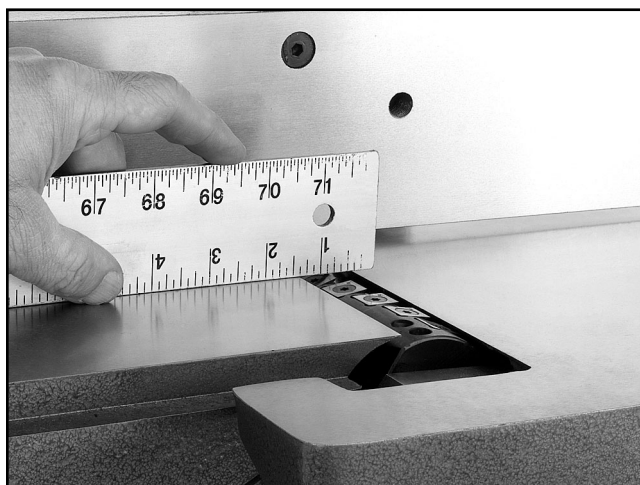

Figure 28. Setting the outfeed table height.
3. Raise or lower the outfeed table until the carbide cutter just touches the straightedge (**Figure 28**).